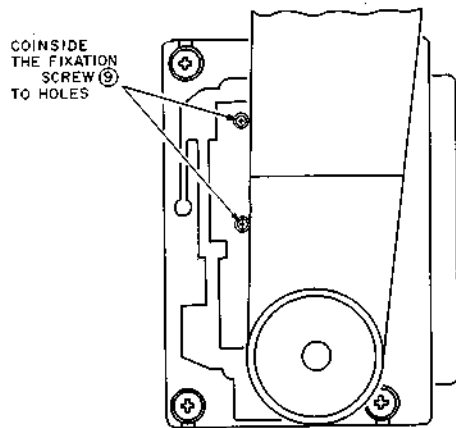

Fig. 4-4
- 1) Move the PICK UP BLOCK and coin side the FIXATION SCREWS (9) to the holes as shown Fig. 4-4. and remove the FIXATION SCREWS (9).
- 2) Disconnect the connector (10) and remove the GLUE (11) which fixing the wires.
- 3) Pull out the PRE AMP PCB (12) to (13) direction.
- 4) Remove two fixation screws (14) of LINEAR MOTOR (15) and remove the LINEAR MOTOR.
- 5) Remove two fixation screws (16) of the SLIDE SHAFTS (17), then pull out the SLIDE SHAFTS (17) direction and remove the PICK UP BLOCK (18).
- 6) Remove two fixation screws (19) and remove the PLATE (20).